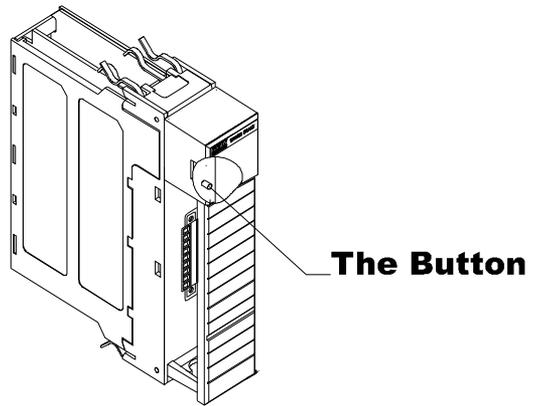

FIG. 5-3 “THE BUTTON” C2 CALIBRATION - HI 1756-WS
- Step 3. Press and hold “The Button” until the desired Scale LED turns green, and release it when the Scale LED flashes green. (See Fig. 5-3 & 5-4)